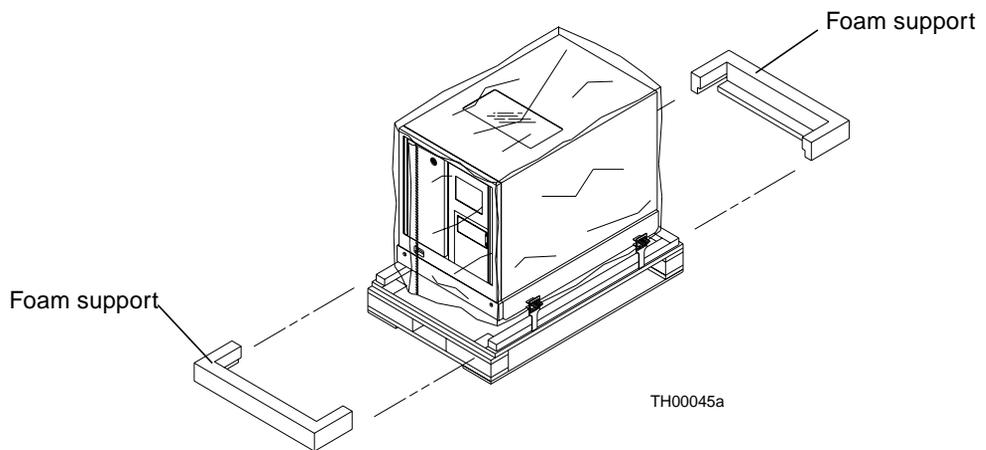

FIGURE B-7 Adding Foam Supports (Stand-Alone Unit Only)
- 4. For the stand-alone library, place additional foam supports between the library and the pallet (FIGURE B-7).